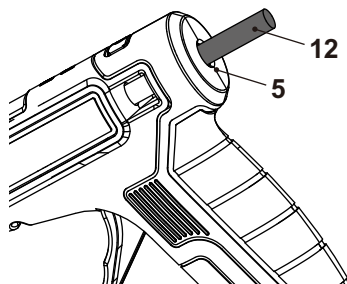

Fig. 3
1. Check the size of glue stick (12) is between 6.8-7.5 mm in diameter.
2. Align and insert the glue stick (12) into the feeding channel (5) until it stops (Fig. 3).